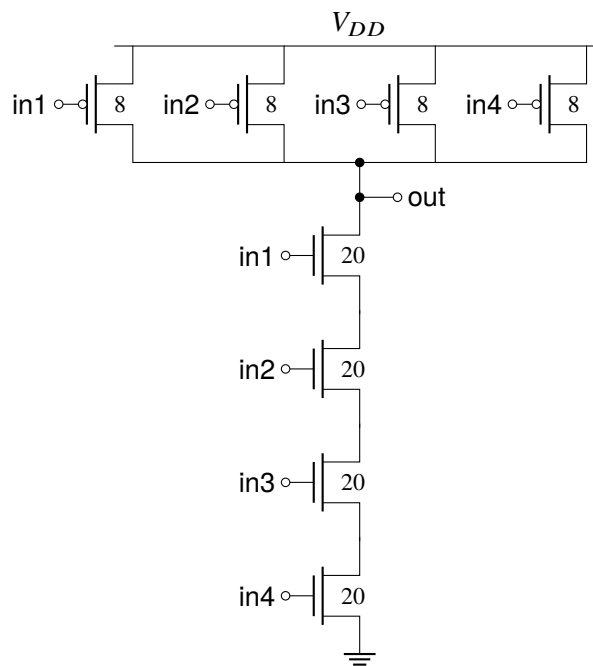

Figure 8: CMOS NAND4A schematic.
**NAND4A** This design directly extends the structure of NAND2 into NAND4. Its schematic is shown in Figure 8.